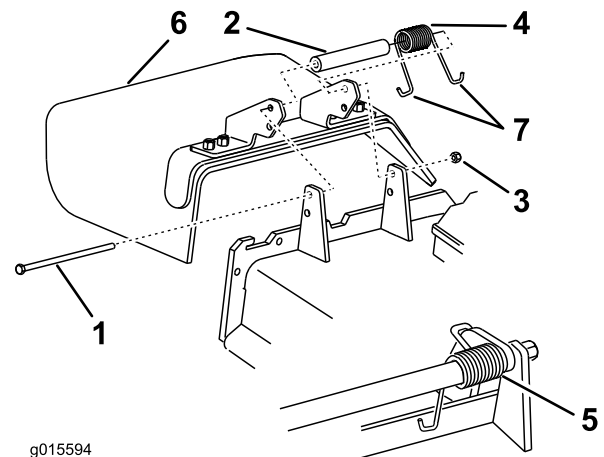

Figure 107
1. Remove the locknut, bolt, spring and spacer holding the deflector to the pivot brackets (Figure 107). Remove damaged or worn grass deflector.
Note: Make sure one J end of spring is installed behind deck edge before installing the bolt as shown in Figure 107.
3. Install bolt and nut. Place one J hook end of spring around grass deflector (Figure 107).